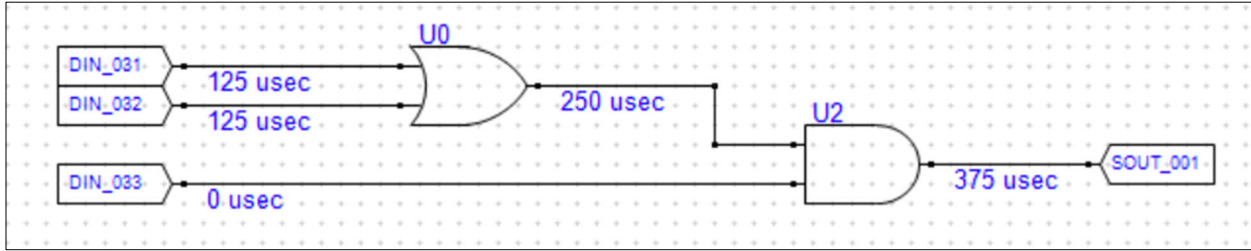
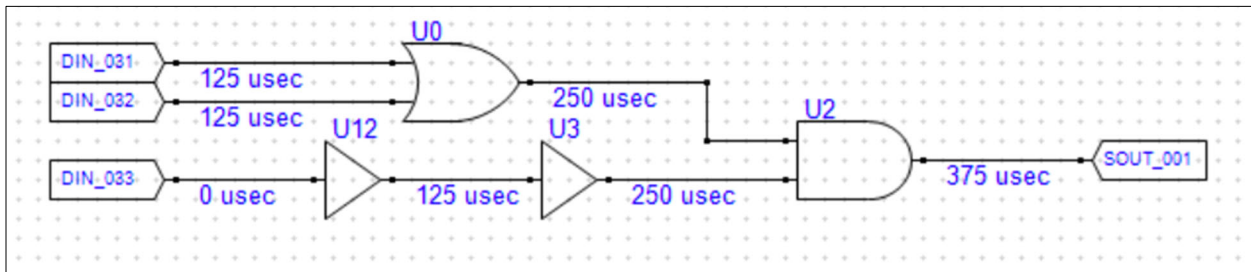

Figure 61 - Unbalanced Propagation Delay
Figure 62 - Balancing Delays by Adding Buffers
If it is important that a particular set of input signals be evaluated by an interlock at the same time, then you may insert buffers to equalize the propagation delay of each input's signal path. For example, Figure 62 - Balancing Delays by Adding Buffers shows how buffers would be inserted into Figure 61 - Unbalanced Propagation Delay's schematic to ensure that both inputs to U2 are evaluated simultaneously.
Figure 61 - Unbalanced Propagation Delay shows an example of unbalanced signal propagation delays at the inputs of U2. One input has a 250-microsecond delay from DIN_031 and DIN_032 and the other input has no delay from DIN_033.
One method of matching propagation delays is to insert buffers between blocks. Each buffer adds 125 microseconds, so adding (2) buffers between DIN_033 and U2 adds 250 microseconds in this signal path. Figure 62 - Balancing Delays by Adding Buffers shows the same circuit with buffers inserted to the delay needed. Note that each buffer uses an interlock resource.